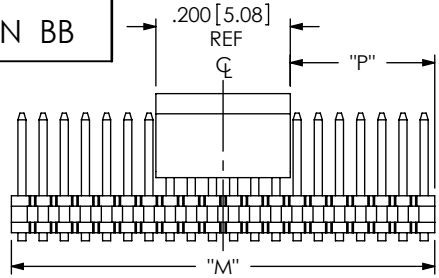

FIG 2
- P: PICK AND PLACE PAD (SEE FIG.2, SHT 2)